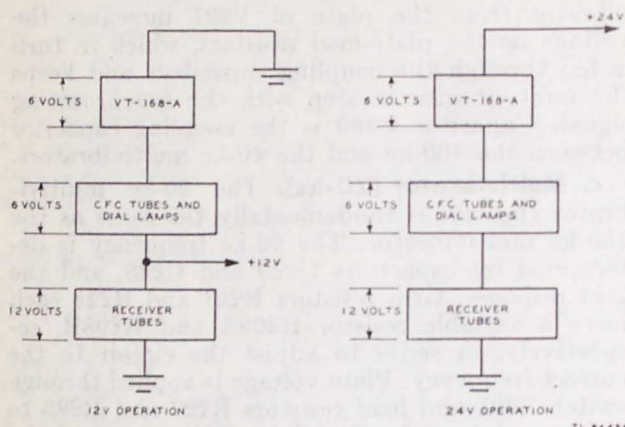

Figure 50. Radio Receiver BC-652-A, block diagram of filament connections.
a. Figure 50 shows a block diagram of the receiver filament circuit. There are two parallel groups of tubes when using 12-volt input, and three series groups when using 24-volt input.